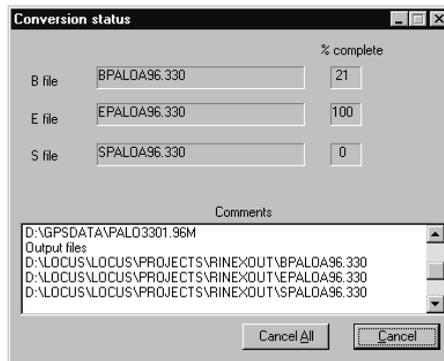

Figure B.5. Conversion Status Dialog Box
7. Click **BEGIN** to convert the selected RINEX files to Ashtech format. The **Conversion status** dialog box opens (Figure B.5).